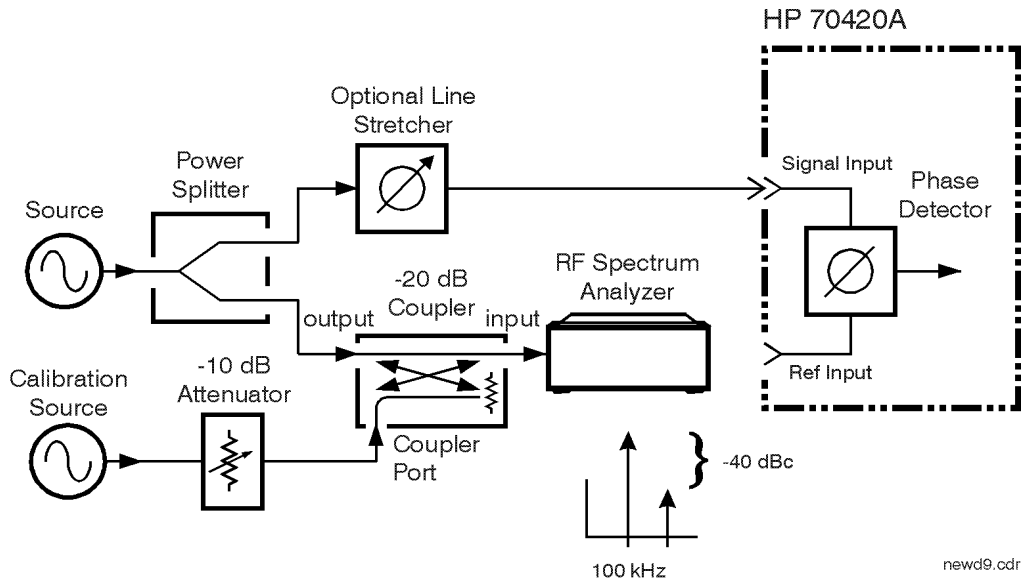

Figure 8-16 Calibration Setup
- 1 Connect circuit as per Figure 8-16, and tighten all connections. Note that the input signal into the directional coupler is being supplied to the coupler's output port.